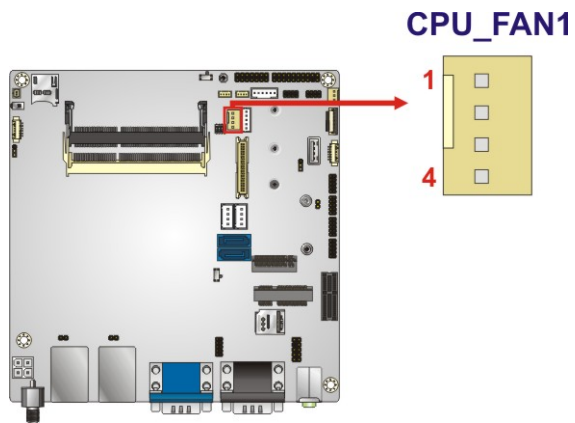

Figure 3-7: CPU Fan Connector Locations
- CN Location:** See **Figure 3-7**